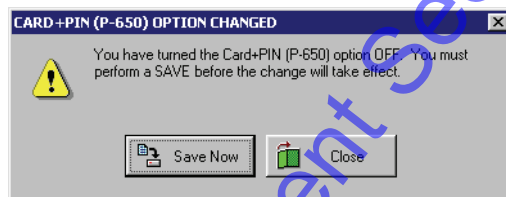

Figure 2-27: Card+PIN (P-650) Option Changed Warning - OFF
1. To disable the Card+PIN (P-650) feature, click in the Card+PIN (P-650) ON check box. The check mark that was there disappears and the following window appears (see Figure 2-27).